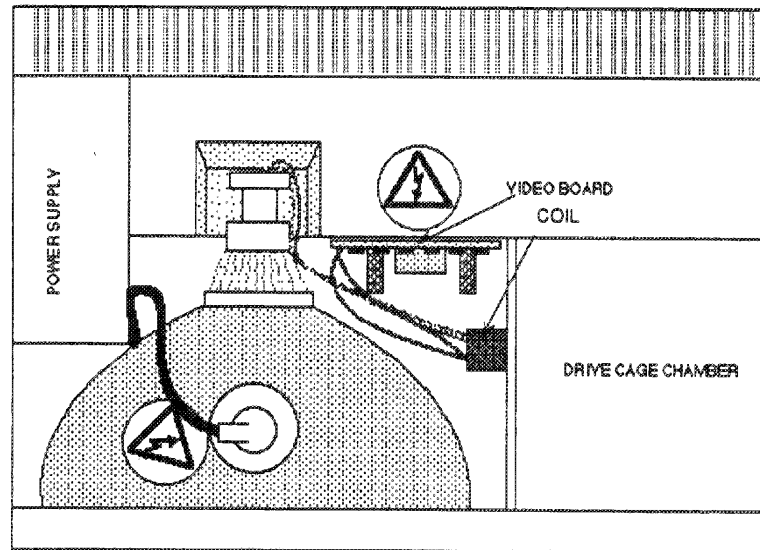

Figure 30 The new coil attaches to the outer wall of the disk-drive chamber with double-sided tape.
14. The new transformer attaches to the outer wall of the disk-drive chamber with double-sided tape. Clean the area, and attach the transformer as shown in Figure 30.